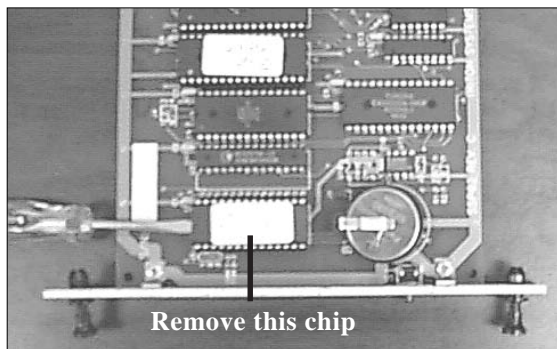

Figure 8. Memory module.
13. Remove the SS-2 card (Memory module) from its slot in the card cage. Place the Memory card on a flat surface (preferably on an ESD mat). Position the card so that the front of the module is facing towards you (Figure 8).
14. Remove the EPROM chip that is immediately to the left of the circular battery (See Figure 8). The use of an IC chip puller to perform this step is recommended; however, a small flat-blade screwdriver can be used. Place the tip of the screw driver between the chip and its socket, and twist the tip slightly to begin lifting the chip from the socket. Move the tip of the screwdriver to the opposite end of the chip and repeat. By alternating sides and lifting the chip a small amount each time, you will eventually release the chip from its socket. At this point, carefully remove the chip from the memory card.